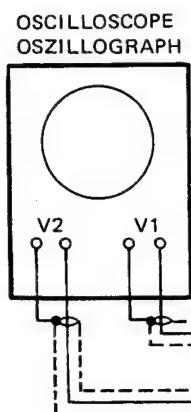

Fig. 26
1. Set up Oscilloscope and DC supply as shown in Fig. 26.